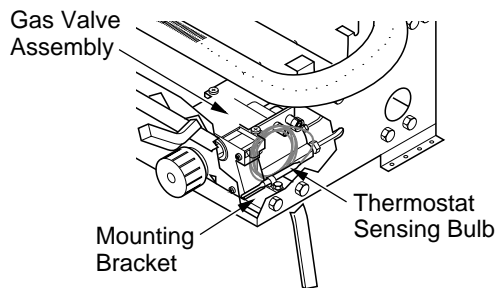

Figure 40 - Location of Gas Valve Assembly and Thermostat Sensing Bulb
1. Remove logs. Locate the gas valve assembly and thermostat sensing bulb (see Figure 40).